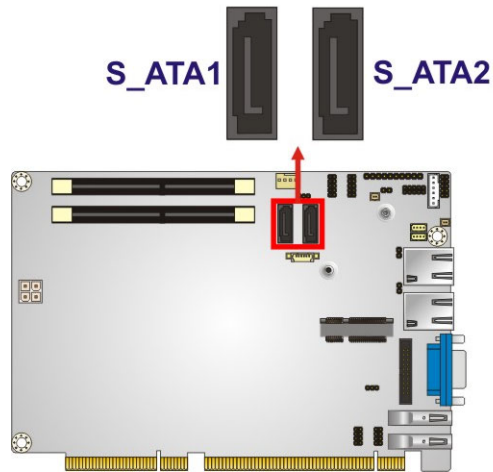

Figure 3-20: SATA 6Gb/s Drive Connector Locations
- CN Location:** See Figure 3-20